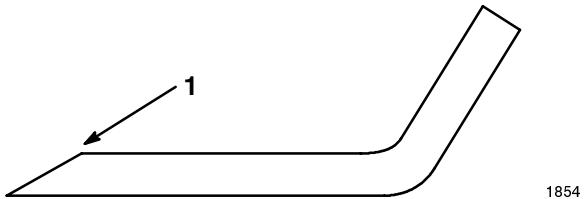

Figure 38
1. Use a file to sharpen the cutting edge at both ends of the blade (Fig. 38). Maintain the original angle. The blade retains its balance if the same amount of material is removed from both cutting edges.